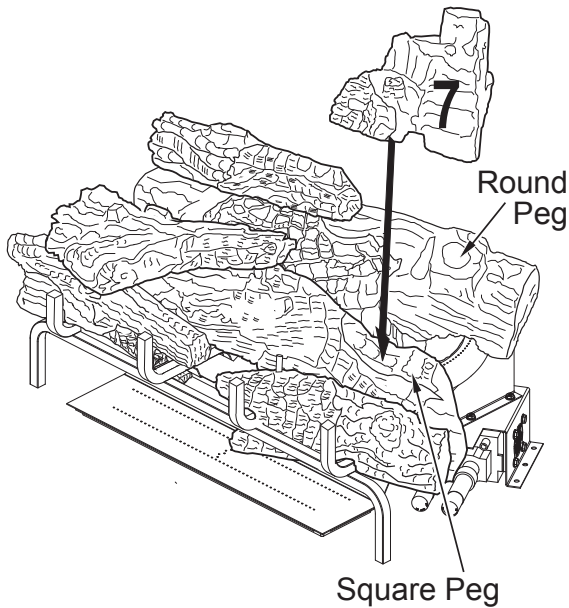

Figure 28 - Installing Log #7
- Place the right rear chunk log (#7) on top of the middle log (#2) and rear log (#1) as shown in **Figure 28, Page 17**. Match the round peg on the top of the rear log (#1) with the round hole on the bottom of the right rear chunk (#7) log and square peg on the top of the middle log (#2) with the square hole on the bottom of the right rear chunk log (#7).